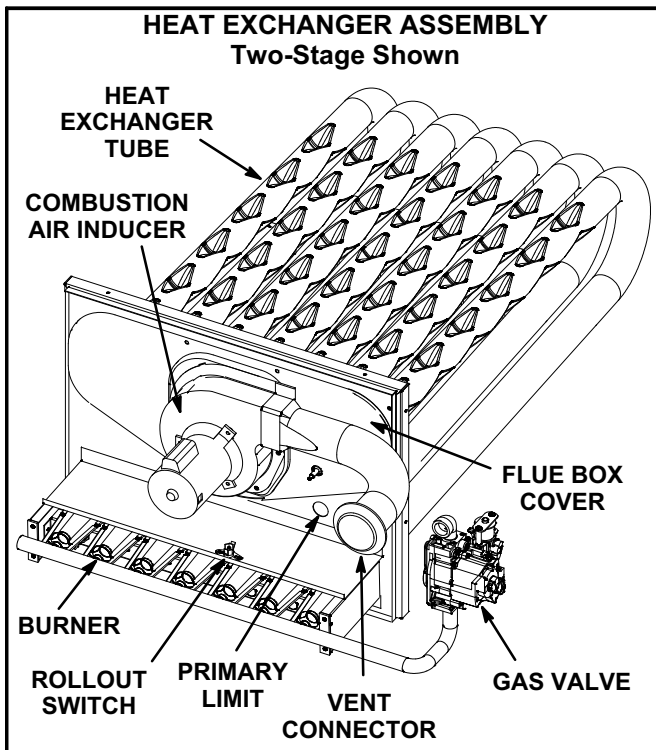

FIGURE 32
- 4- Remove and retain screws securing combustion air inducer to flue box. Remove vent connector. See figure 32.